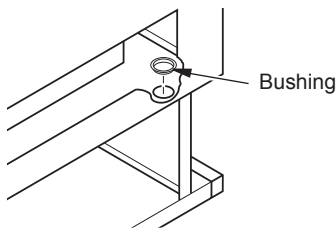

Figure 14 - Installing Bushing
3. Facing front of stove, carefully slide top panel forward until it is completely removed from stove (see Figure 14).
11. Attach the terminal ends of the white and black power cord wires to the terminals on the blower motor (see Figure 14, page 12). Push firmly.
12. Attach the terminal end of the green power cord wire to the front tab of the blower housing using screw provided (see Figure 14, page 12).
6. Install one plastic bushing provided in blower kit into the 1 1/2" hole in the left rear of firebox floor. Access hole through the rectangular opening in the rear panel (see Figure 14, page 12).